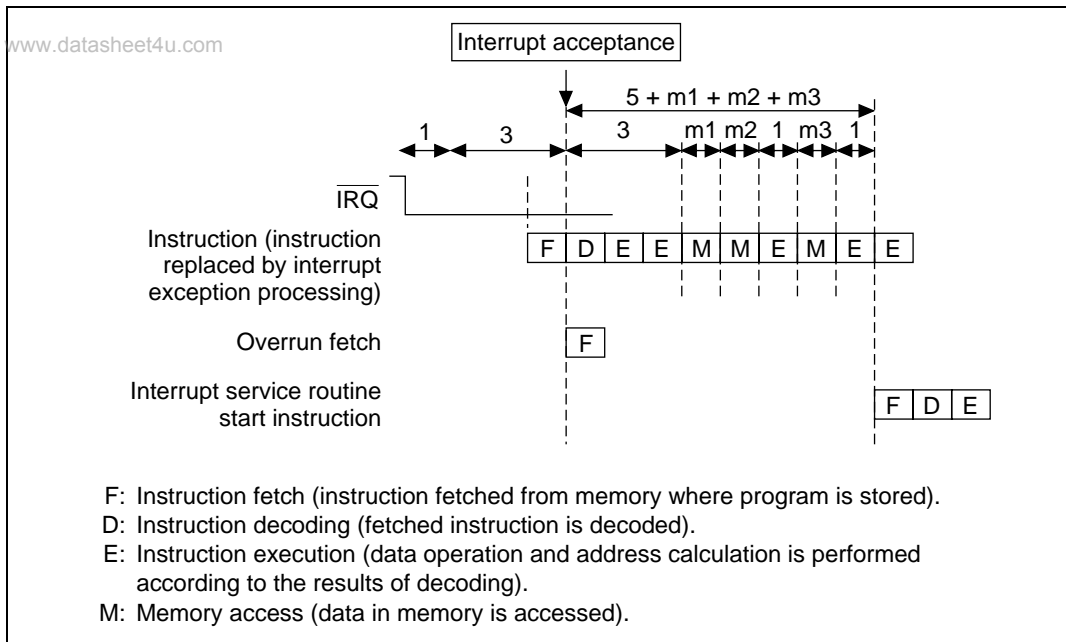

Figure 6.5 Pipeline when an IRQ Interrupt is Accepted
3. The interrupt controller compares the priority level of the selected interrupt request with the interrupt mask bits (I3–I0) in the CPU's status register (SR). If the request priority level is equal to or less than the level set in I3–I0, the request is ignored. If the request priority level is higher than the level in bits I3–I0, the interrupt controller accepts the interrupt and sends an interrupt request signal to the CPU.
5. The CPU detects the interrupt request sent from the interrupt controller when it decodes the next instruction to be executed. Instead of executing the decoded instruction, the CPU starts interrupt exception processing (figure 6.5).
7. The priority level of the accepted interrupt is copied to the interrupt mask level bits (I3 to I0) in the status register (SR).
8. When the accepted interrupt is sensed by level or is from an on-chip peripheral module, a high level is output from the $\overline{\text{IRQOUT}}$ pin. When the accepted interrupt is sensed by edge, a high level is output from the $\overline{\text{IRQOUT}}$ pin at the point when the CPU starts interrupt exception processing instead of instruction execution as noted in (5) above. However, if the interrupt controller accepts an interrupt with a higher priority than one it is in the midst of accepting, the $\overline{\text{IRQOUT}}$ pin will remain low level.
Table 6.5 indicates the interrupt response time, which is the time from the occurrence of an interrupt request until the interrupt exception processing starts and fetching of the first instruction of the interrupt service routine begins. Figure 6.5 shows the pipeline when an IRQ interrupt is accepted.